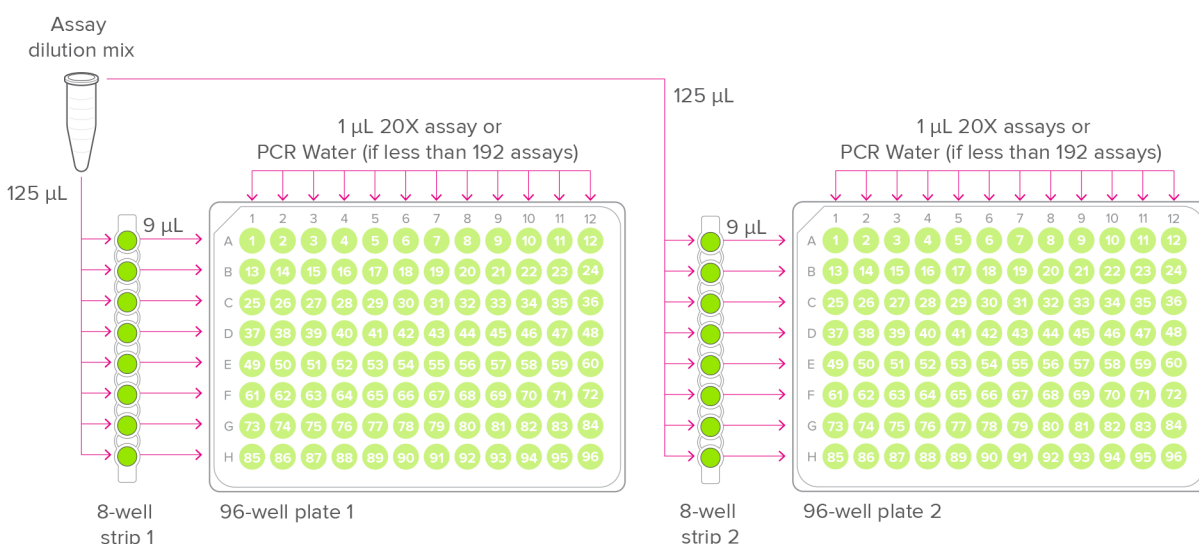

Figure 1. Preparation of 2X assay mix
- 4 Aliquot 125 μL of assay dilution mix into each well of two 8-well strips (see Figure 1).